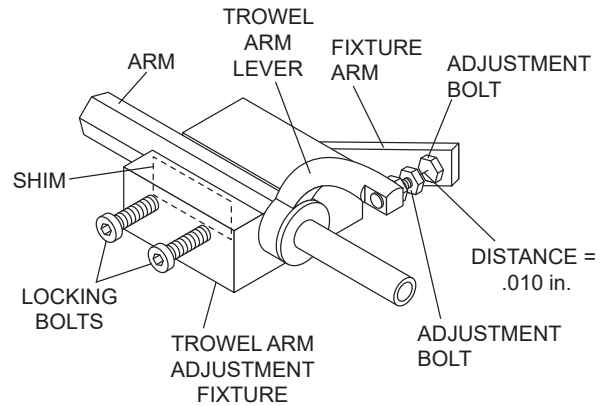

Figure 56. Trowel Arm Adjustment Fixture Components
3. Unscrew the locking bolts on the adjustment tool and place the trowel arm into the fixture channel as shown in Figure 56. A thin shim may be required to cover the blade holes on the trowel arm. Make sure to align the trowel adjustment bolt with the fixture adjustment bolt.
5. Adjust the bolt "distance" shown in Figure 56 to match one of the arms. The other arms will be adjusted to match this distance.